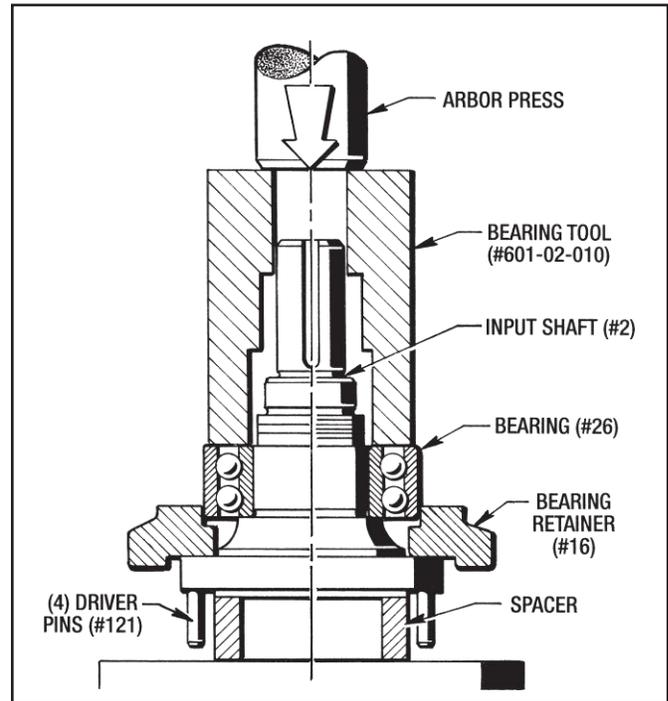

Figure 9.12 - Installing Bearing (#26) on Input Shaft (#2)
- Press the Bearing (#26) on to the Input Shaft (#2) with the Bearing Assembly Tool #601-02-010 and an Arbor Press until it bottoms out on the shoulder. (See Figure 9.12)